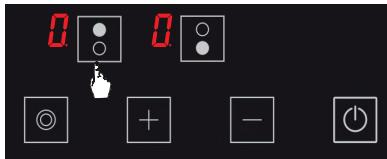

Figure 15
2. Press the upper hob selection key (ⓐ) again. (See Fig. 15)